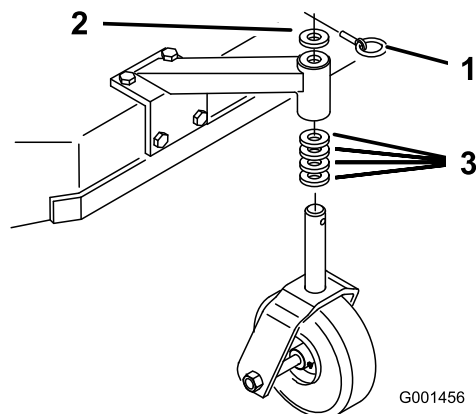

Figure 21
1. Using the Height-of-Cut Chart, adjust the caster spacers to match with the axle hole selected (Figure 21).
2. Remove the latch pin, slide the caster from the support, and change the spacers (Figure 21).
3. Install the caster in the support and insert the latch pin (Figure 21).